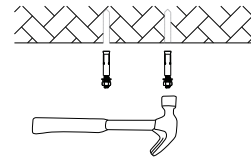

FIGURE 4
2. Fix screws into the holes with a hammer. (Figure 4)